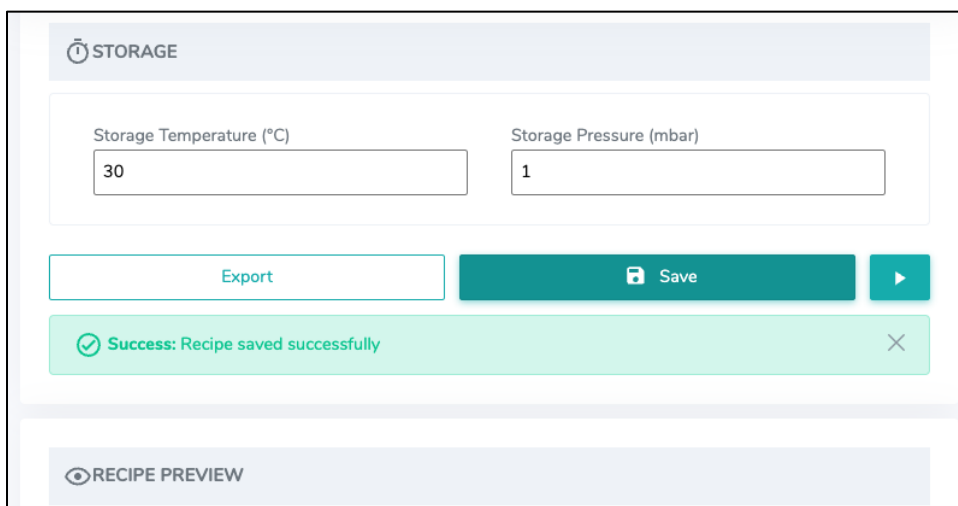

Figure 71
To apply changes to a recipe, tap “ Save” to save the recipe (Figure 71). The play icon () will be enabled when a new recipe is saved, or an existing recipe is opened. Tap the icon to go to the Operate page with the recipe selected.
When accessing the machine via a browser (see section “10.2 Connecting via Web Browser”), tap “Export” (Figure 71) to download a copy of the recipe for backup or transfer between different machines (see “item 4. Import” in section “10.9.1 Recipe Browser”).